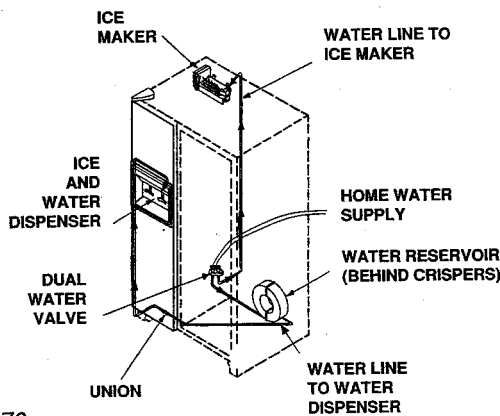

Figure 70
- When the Dispenser bar is activated, a solenoid in the water line is energized and water is added to the reservoir. Using the force of the household water pressure, water moves into the tubing and out through the Dispenser. See Figure 70.